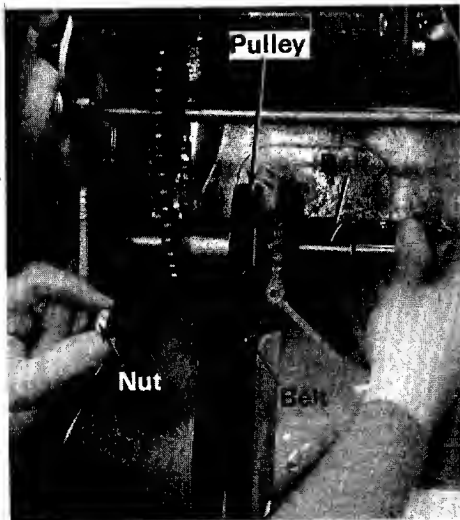

Figure 23
- 6 Remove the nut and slide the pulley bolt out. (See figure 23.)